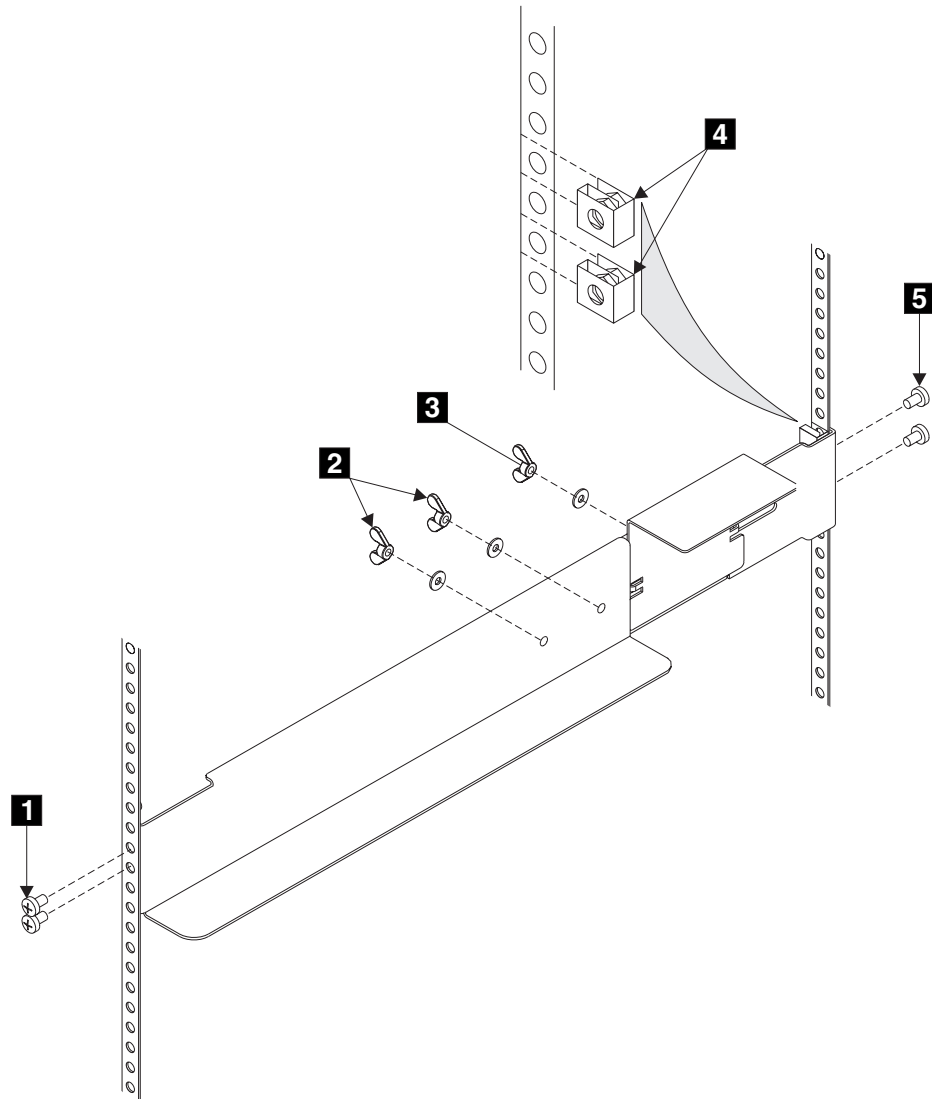

Figure 281. Support rail components for placing the 2145 UPS in the rack
1. Attach nut clips **4** to the rack (see Figure 281 on page 281). These nut clips must align with the second and fourth holes of the support rail flange.